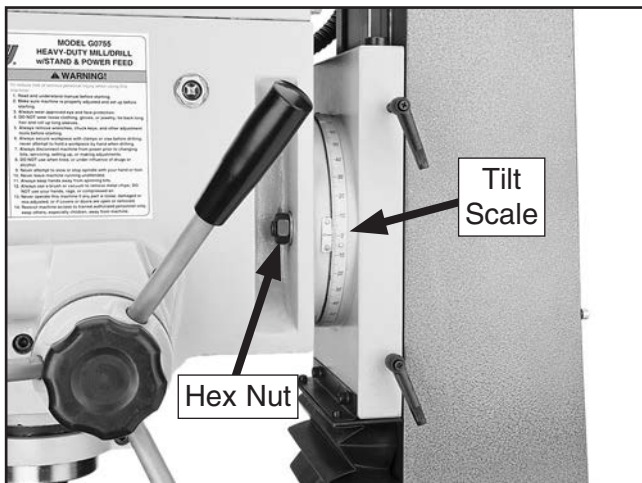

Figure 17. Tilt locking hex nut (one on each side of head).
1. Use a 22mm wrench to loosen the three locking hex nuts (see **Figures 17–18**), then tilt headstock to desired angle on tilt scale.